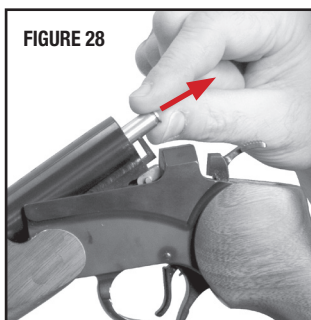

FIGURE 28
- With the hammer in the “At Rest” position, open the action and remove the cartridge from the chamber (FIGURES 28 & 29).